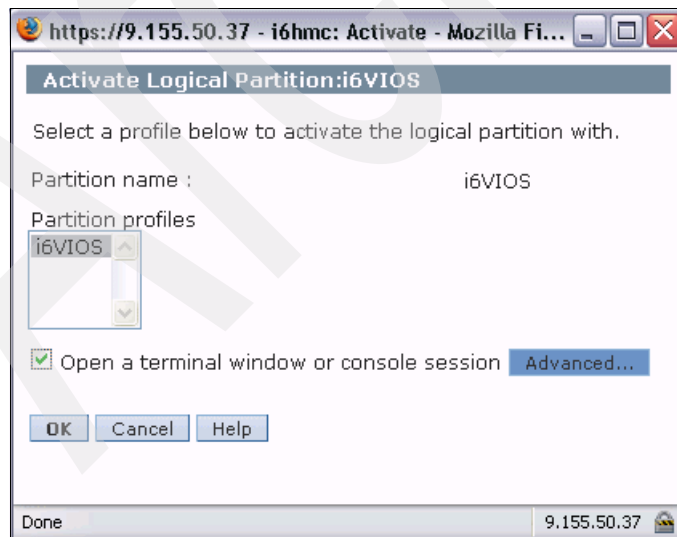

Figure 6-43 Activate Logical Partition dialog
3. Select the partition profile, mark **Open a terminal window or console session**, and click **Advanced**, as shown in Figure 6-43.